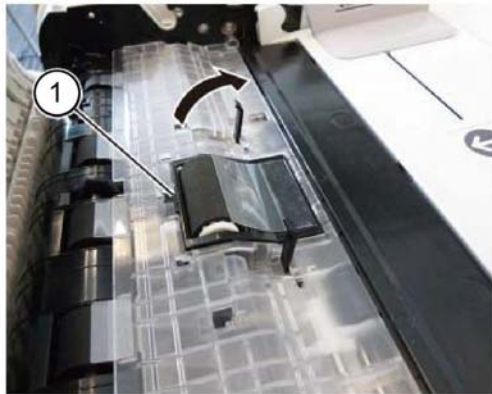

Figure 1 Retard CRU cover assembly
2. Release the hook (1), then open the retard CRU cover assembly in the direction of the arrow, Figure 1.